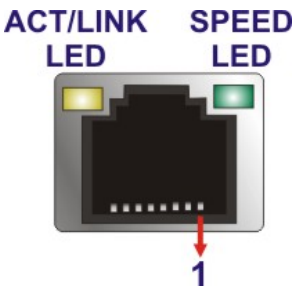

Figure 3-24: LAN Connector
- CN Pinouts: See Figure 3-24 and Table 3-23